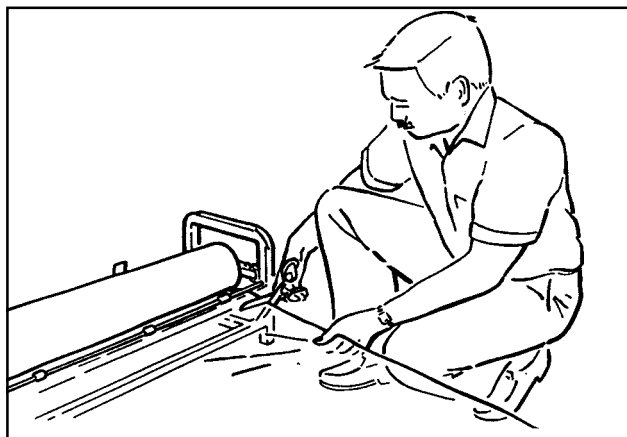

Figure 4 – Dispensing Sheeting
- Pull required length of sheeting out and cut as shown in Figure 4.